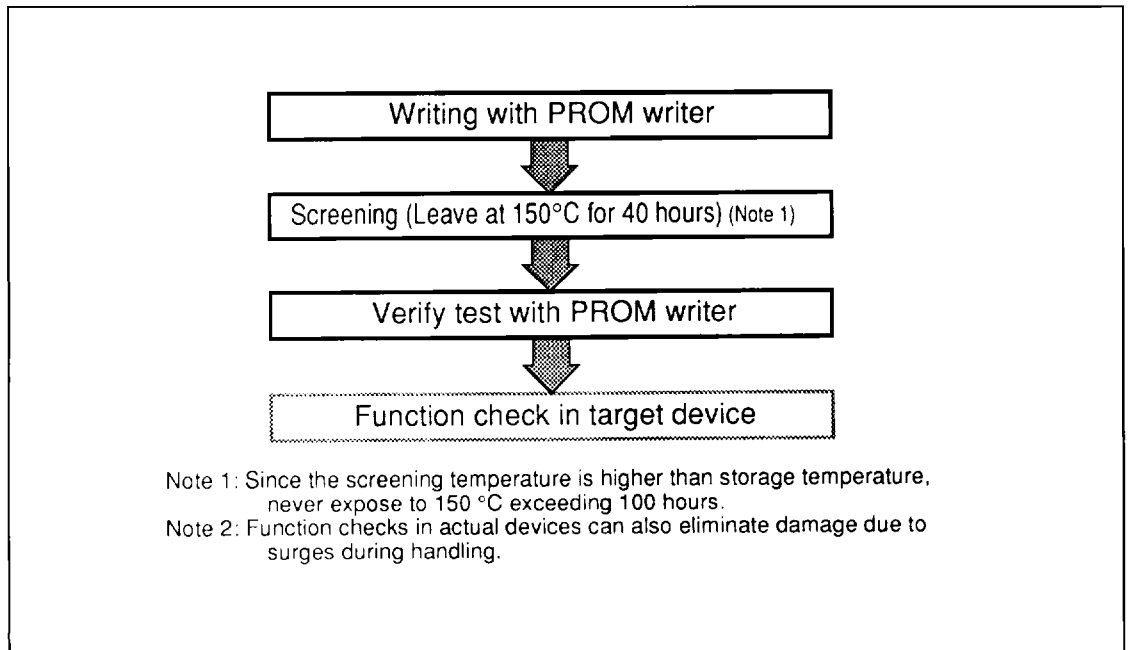

Fig.4.4.4 Writing and test for blank one-time programmable type
- (1) Sunlight and fluorescent light include wavelengths that will erase written data. When using the window version of the 7470 Series in read mode, always cover the transparent glass window with a light-proof seal.
- (2) Mitsubishi provides light-proof seals designed to cover the transparent glass window of the window version. Make sure that the seal does not touch the lead pins of the microcomputer.
- (3) Before erasing the window version, clean the transparent glass of the window. Dirt such as grease from hands and glue may hinder the passage of ultraviolet light and affect the erasure characteristics.
- (4) Writing involves the use of high voltages, so make sure that excessive voltages are not used. Pay particular attention when turning on the power source.
- (5) Mitsubishi does not test or screen any writing to PROM in blank one-time programmable microcomputers^{**} after they have left the factory. To improve reliability after writing, we recommend that these microcomputers are written to and tested in the sequence shown in the flow diagram of Figure 4.4.4.